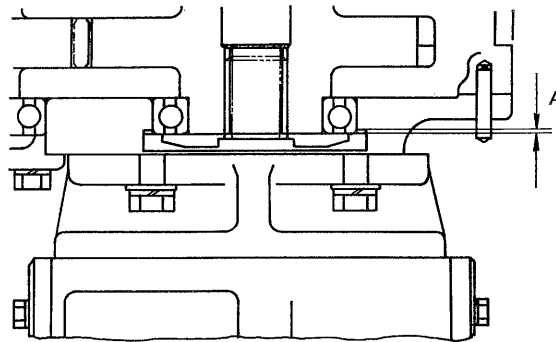

Fig. 11
- (2) Apply molybdenum disulfide grease on mating surfaces between gear No. 1 and boss.
- (3) When installing pumps and bearing cover to case, allow a clearance (A) of 0.2 to 0.3 mm between fitting surfaces of pumps and bearing outer races, and also of cover and bearing outer race by placing proper amount of shims. (Fig. 11)